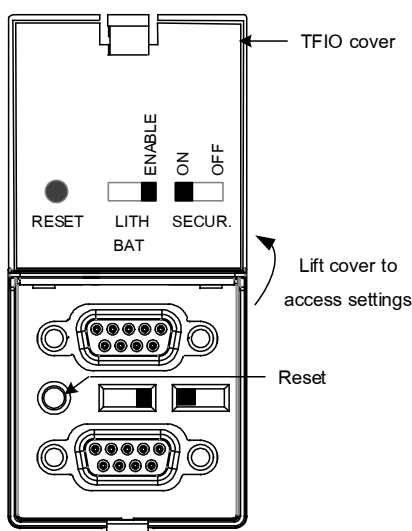

Figure 83: Reset button
2. Press and release the **Reset** button (Figure 83).